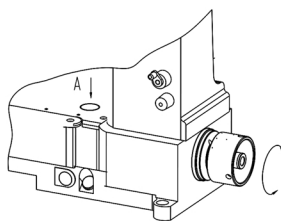

图29 (Fig.29)
1. 压下针距调整按钮(A), 并转动手轮, 使按钮卡住针距调整组件, 再转动手轮到所需针距后, 放松此按钮。(图29)
1. Push stitch length regulator bottom (A) and turn pulley until the bottom lock in the stitch regulator. Then, turn pulley again to reach desired stitch length, then release the bottom (Fig.29).